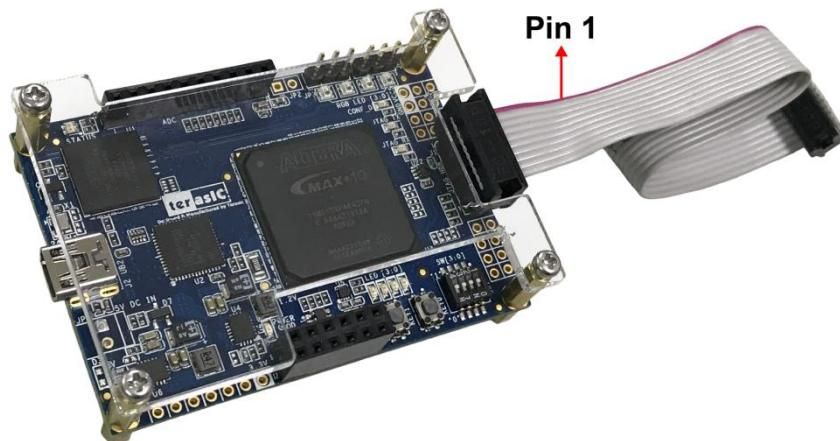

Figure 5-4 The flat ribbon cable connected to the T-Core board
1. Connect the flat ribbon cable to the J1 of the T-Core board, as shown in **Figure 5-4**. The red line represents the connection line of pin 1, which needs to be connected to the pin of J1.